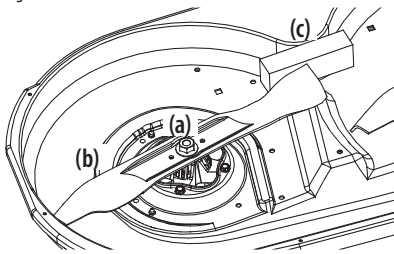

Figure 51
2. Use a 15/16" wrench to hold the hex nut on top of the spindle assembly when loosening the hex nut (a) securing the blade (b). A block of wood (c) may be placed between the deck housing and the cutting edge of the blade (b) to help in breaking loose the hex nut (a) securing the blade. See Figure 51.